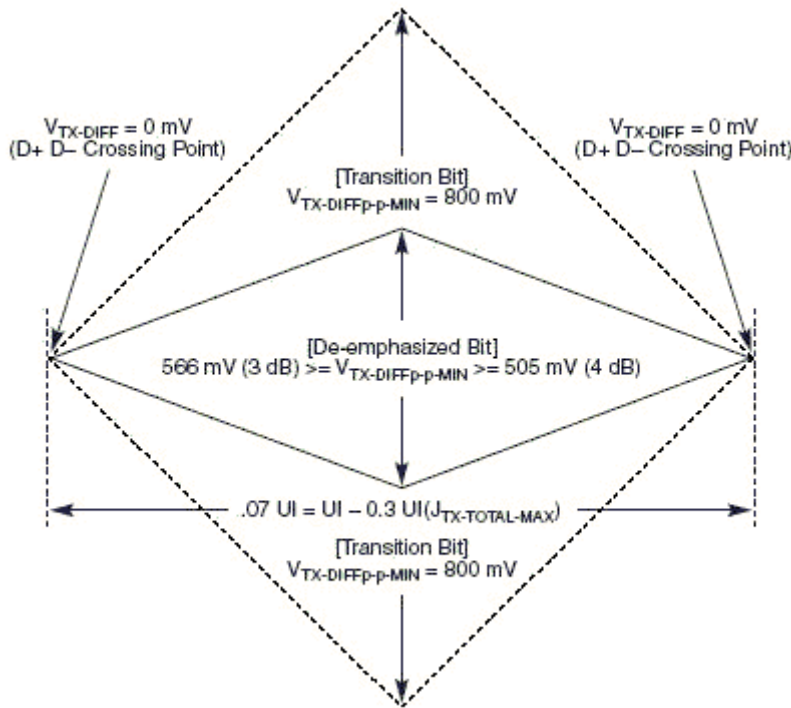
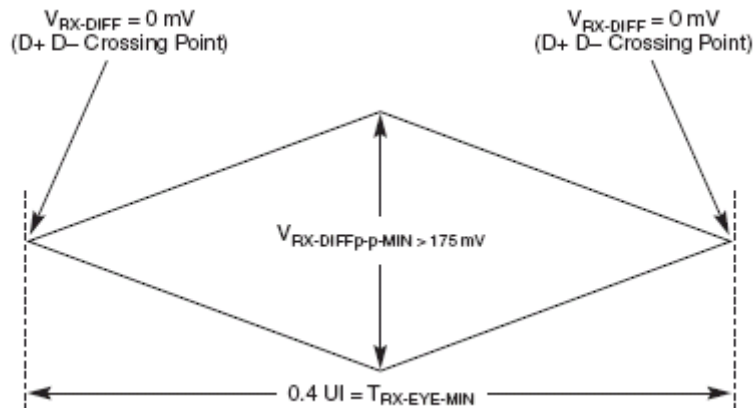
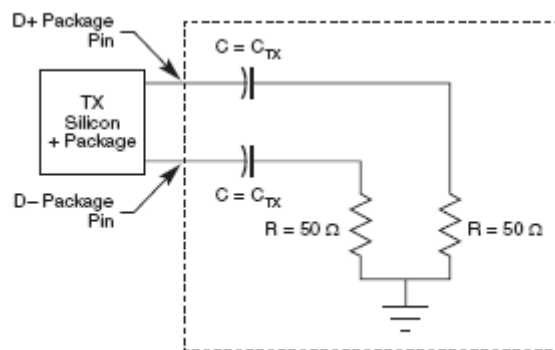

Figure 49. Minimum Transmitter Timing and Voltage Output Compliance Specifications
Figure 50. Minimum Receiver Eye Timing and Voltage Compliance Specification
Figure 51. Compliance Test/Measurement Load
- Specified at the measurement point into a timing and voltage compliance test load as shown in Figure 51 and measured over any 250 consecutive TX UIs. (Also refer to the transmitter compliance eye diagram shown in Figure 49)
- The Transmitter input impedance shall result in a differential return loss greater than or equal to 12 dB and a common mode return loss greater than or equal to 6 dB over a frequency range of 50 MHz to 1.25 GHz. This input impedance requirement applies to all valid input levels. The reference impedance for return loss measurements is 50Ω to ground for both the D+ and D- line (that is, as measured by a Vector Network Analyzer with 50 ohm probes—see Figure 51). Note that the series capacitors C_{TX} is optional for the return loss measurement.
- Measured between 20-80% at transmitter package pins into a test load as shown in Figure 51 for both V_{TX-D+} and V_{TX-D-} .
The TX eye diagram in Figure 49 is specified using the passive compliance/test measurement load (see Figure 51) in place of any real PCI Express interconnect + RX component.
2. Specified at the measurement point and measured over any 250 consecutive UIs. The test load in Figure 51 should be used as the RX device when taking measurements (also refer to the Receiver compliance eye diagram shown in Figure 50). If the clocks to the RX and TX are not derived from the same reference clock, the TX UI recovered from 3500 consecutive UI must be used as a reference for the eye diagram.
4. The Receiver input impedance shall result in a differential return loss greater than or equal to 15 dB with the D+ line biased to 300 mV and the D- line biased to -300 mV and a common mode return loss greater than or equal to 6 dB (no bias required) over a frequency range of 50 MHz to 1.25 GHz. This input impedance requirement applies to all valid input levels. The reference impedance for return loss measurements for is 50 ohms to ground for both the D+ and D- line (that is, as measured by a Vector Network Analyzer with 50 ohm probes—see Figure 51). Note: that the series capacitors CTX is optional for the return loss measurement.
The RX eye diagram in Figure 50 is specified using the passive compliance/test measurement load (see Figure 51) in place of any real PCI Express RX component.
Note: In general, the minimum Receiver eye diagram measured with the compliance/test measurement load (see Figure 51) will be larger than the minimum Receiver eye diagram measured over a range of systems at the input Receiver of any real PCI Express component. The degraded eye diagram at the input Receiver is due to traces internal to the package as well as silicon parasitic characteristics which cause the real PCI Express component to vary in impedance from the compliance/test measurement load. The input Receiver eye diagram is implementation specific and is not specified. RX component designer should provide additional margin to adequately compensate for the degraded minimum Receiver eye diagram (shown in Figure 50) expected at the input Receiver based on some adequate combination of system simulations and the Return Loss measured looking into the RX package and silicon. The RX eye diagram must be aligned in time using the jitter median to locate the center of the eye diagram.
The reference impedance for return loss measurements is 50. to ground for both the D+ and D- line (that is, as measured by a Vector Network Analyzer with 50. probes—see Figure 51). Note that the series capacitors, CTX, are optional for the return loss measurement.
The AC timing and voltage parameters must be verified at the measurement point, as specified within 0.2 inches of the package pins, into a test/measurement load shown in Figure 51.